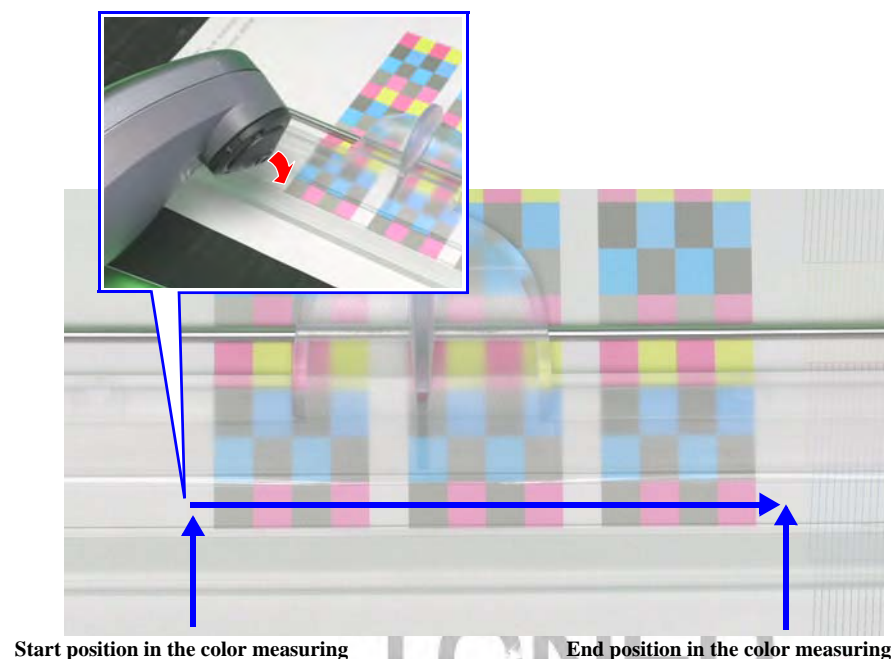

Figure 5-46. Setting the Calibrator/Measuring Position
1. Set the calibrator with its measuring part matched with measuring start position (margin) as shown in Figure 5-46.
- Do not scan any places other than the one shown in Figure 5-46.
1. Set the calibrator with its measuring part matched with measuring start position (gray part) as shown in Figure 5-46.